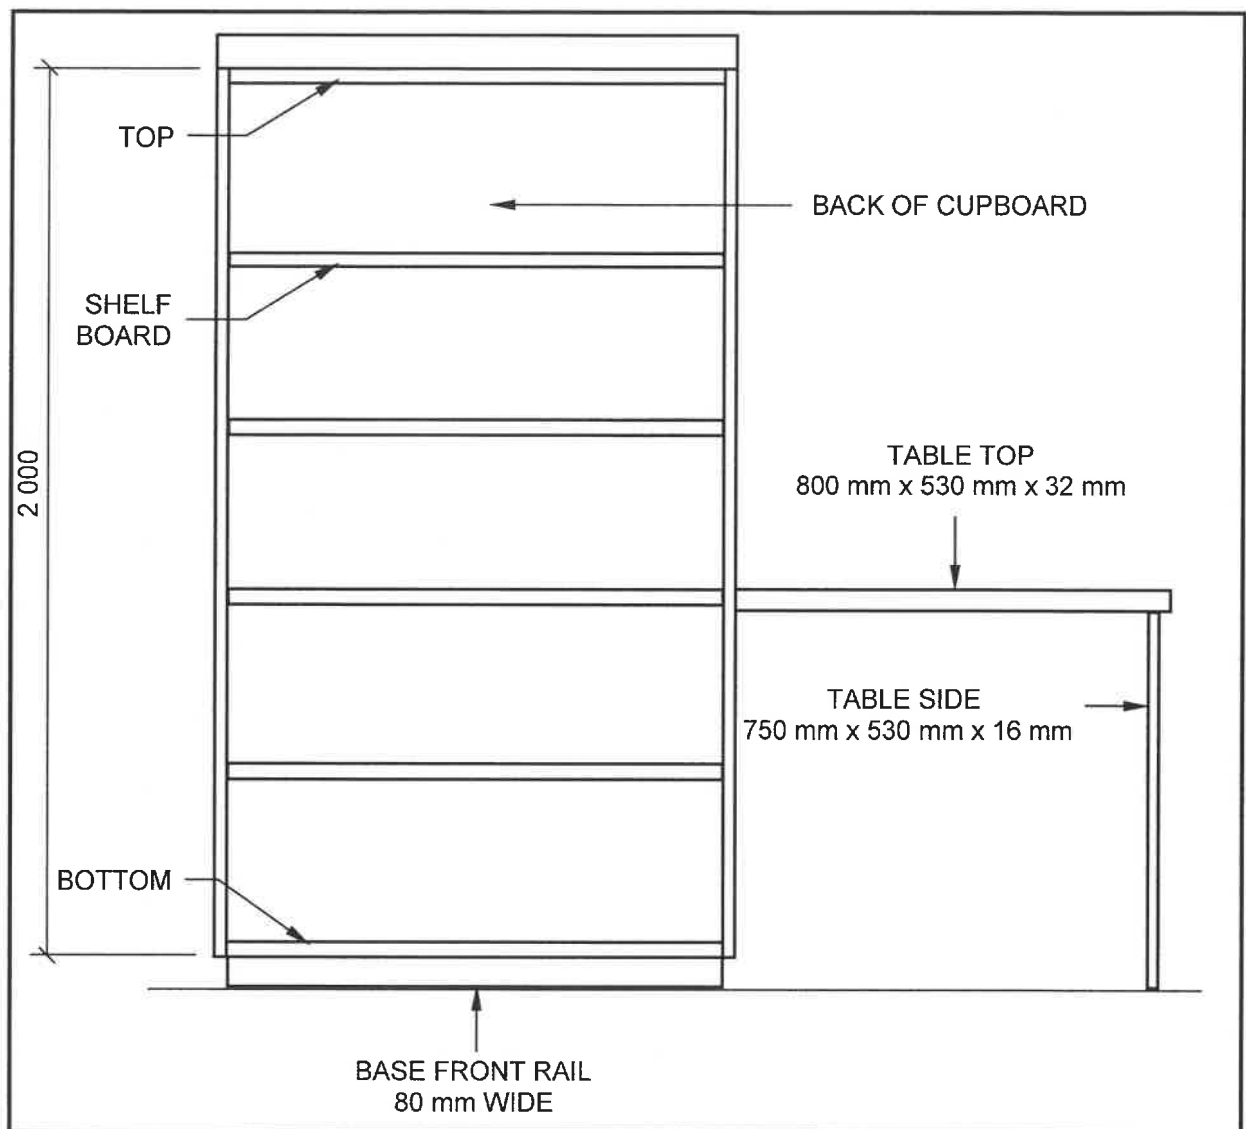

FIGURE 3.2
3.2 FIGURE 3.2 below shows the front view of a freestanding cupboard with a side table without doors.